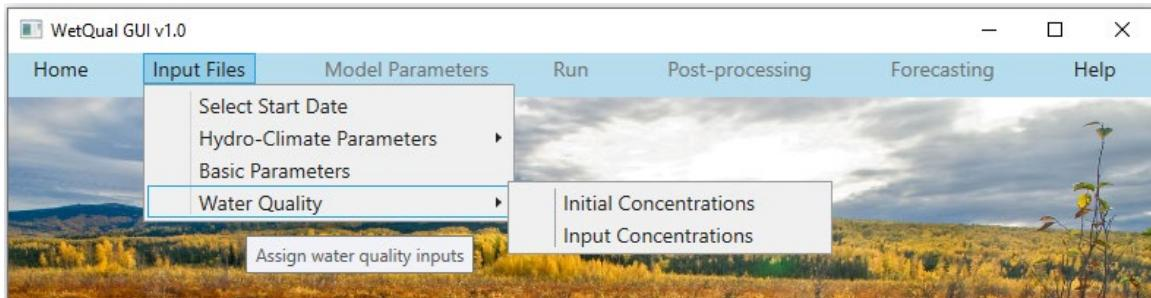

Figure 3.39
The Water Quality menu (Figure 3.39) is used to import “Initial Concentrations” and “Input Concentrations” of nitrogen (N), phosphorus (P), total suspended sediment (TSS) and carbon (C) and to view Input Concentrations. The related input files for these two menus are “11\_initial\_concentration.txt” and “13\_input\_concentrations.txt” files, respectively, located in “InputOutput” folder of the project.